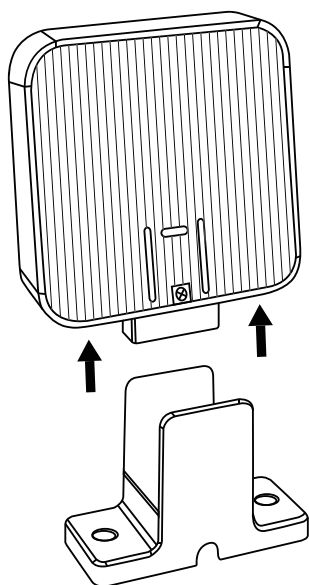

Fig 1
2. Opening the flashing light Fig 1.